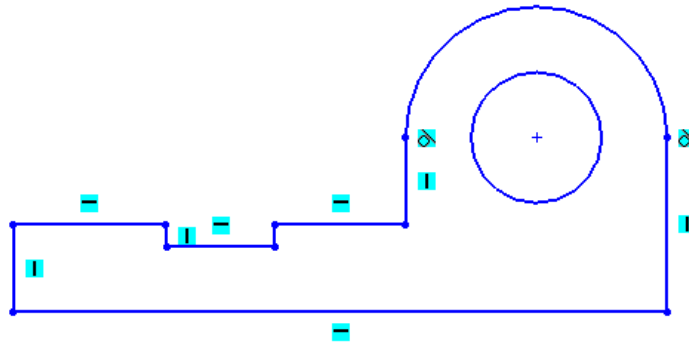

Figure 1-59 Final sketch for Tutorial 3
- Draw the inner circle using the **Circle** tool, refer to Figure 1-59.
The final sketch for Tutorial 3 is shown in Figure 1-59.